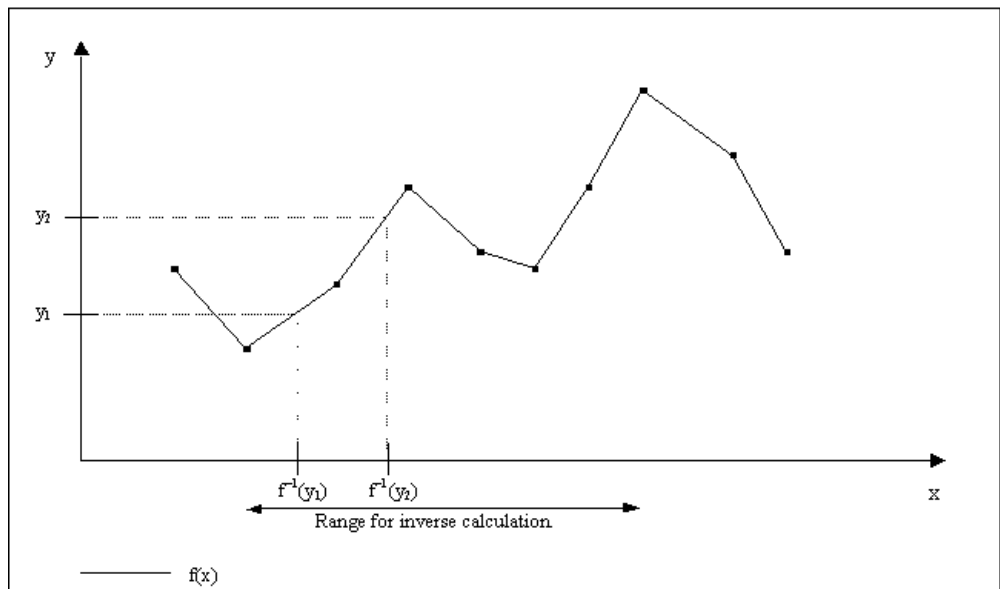

Figure 102. Calculation of the inverse function $f(x)$
- If the inverse is still not unique, the smallest value is chosen. This is illustrated in Figure 102, which shows the inverse calculation for two different *InInverse* values, y_1 and y_2 . For y_1 there are two possible inverse values. The rightmost is chosen, since the inverse is calculated from the curve between the maximum and minimum values. For y_2 , there are four possible inverse values, three of which are inside the inverse range. The leftmost of these is chosen. If *InInverse* is greater than the maximum defined value of y or less than the minimum defined value of y , the inverse calculation is based on using the maximum or minimum value respectively.